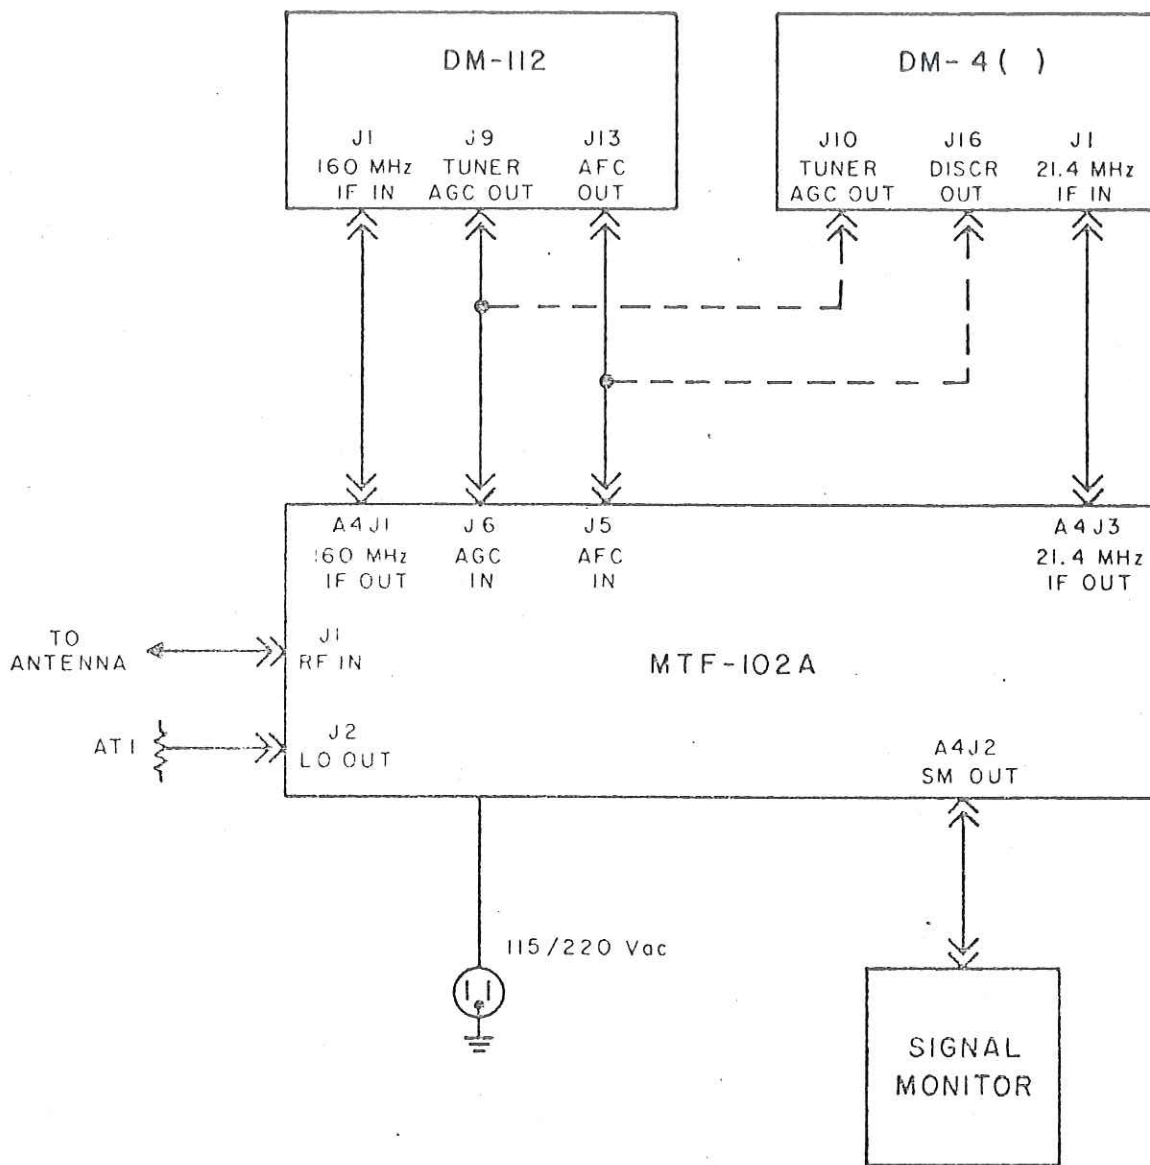

Figure 3-3. MTF-102A System Wiring
3.2.8 MTF-102A Input and Output Connections. - Refer to the MTF-102A system wiring diagram, Figure 3-3, and proceed as follows:
3.2.8.3 IF Output Connection. - Connect a cable from the appropriate IF OUT jack on the MTF-102A to the IF input of the demodulator used. BNC jack A4J1 provides a 160 MHz IF and BNC jack A4J3 provides a 21.4 MHz IF. Figure 3-3 shows shows the connections to a DM-112 and a DM-() demodulator.